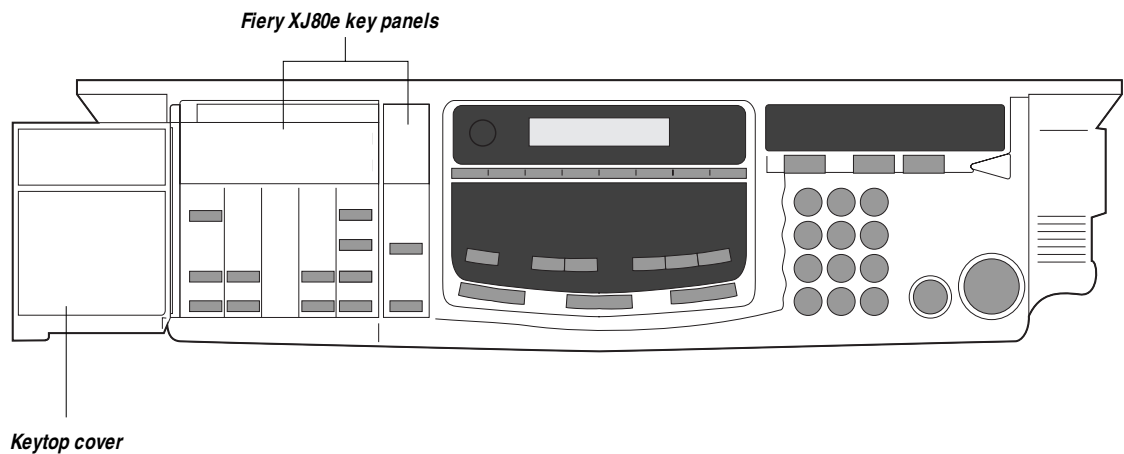

Figure 2-22 Operation Panel
2. **Open the keytop cover on the Operation Panel (see Figure 2-22).**